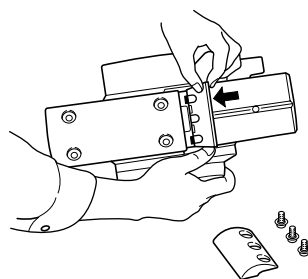

Fig. 7
- (2) As shown in Fig.7 slide the rear side of the cutter blade in the direction indicated by the arrow to disassemble the cutter blade.